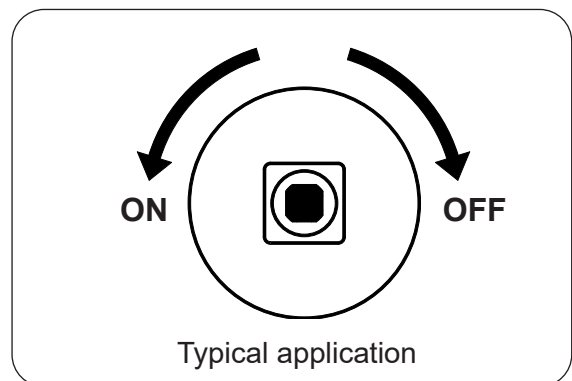

Fig. 14-2
4. **Once the flame is in position**, slowly turn the key valve counter-clockwise toward the **ON** position until it no longer rotates (see Fig. 14-2). Your burner should light.
**WARNING:** If the burner does not light within (5) seconds of turning on the key valve, immediately turn the key valve clockwise toward the **OFF** position until it no longer rotates.
To extinguish your gas burner, turn the key valve clockwise toward the **OFF** position until it no longer rotates (see Fig. 14-2). Be sure the key valve is turned fully off to avoid any gas leakage.